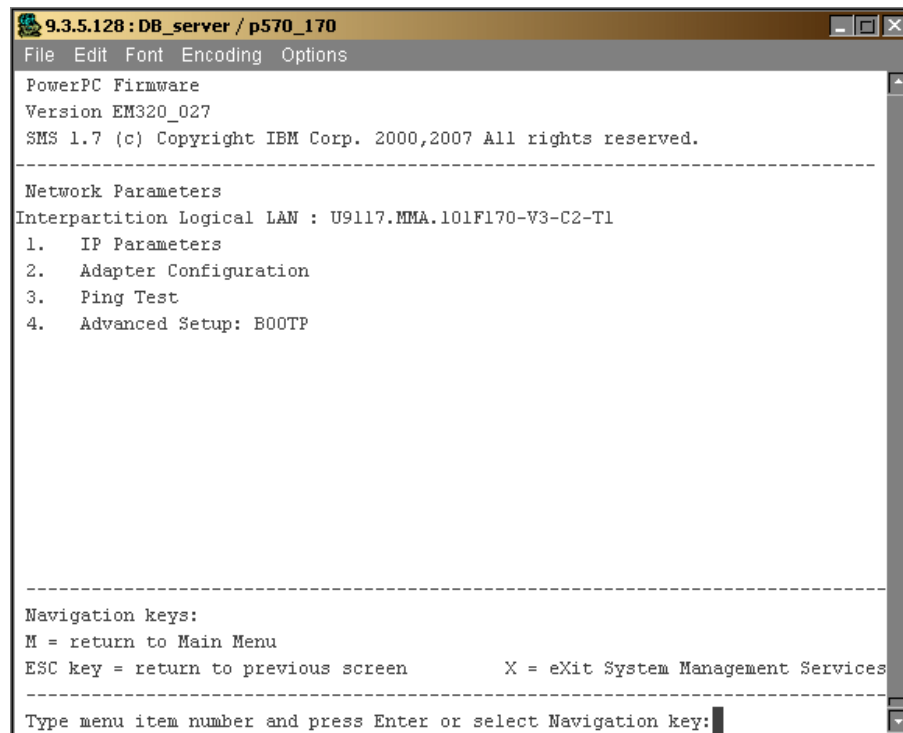

Figure 13-20 Ping test
6. Press Esc to go one level up for the **Ping test** as shown in Figure 13-20.